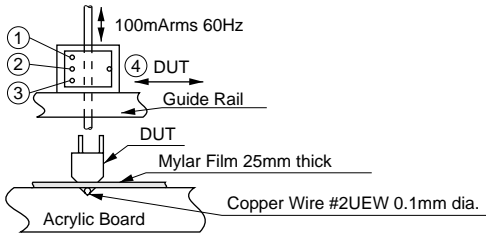

Fig.2 Test Fixture for Output Voltage Measurement
2. DUT is set in the test fixture as shown in Fig.2.